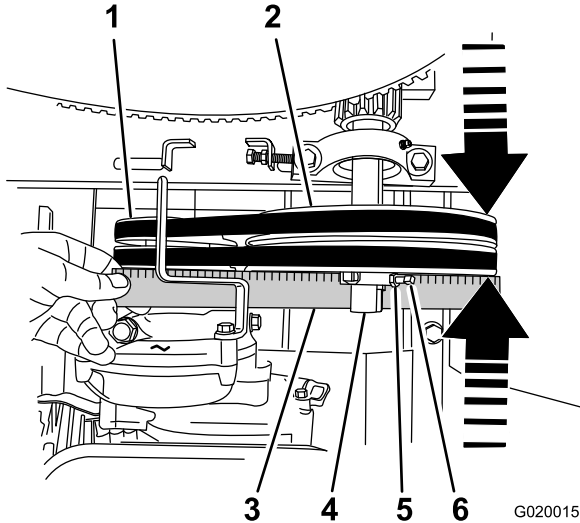

Figure 69
2. Place a straightedge across the face of the engine pulley and the idler pulley (Figure 69).
- B. Loosen the locknuts and setscrews that secure the idler pulley to the idler shaft (Figure 69).
- C. Using a soft-face mallet, tap the idler pulley forward or backward along the idler shaft until the engine pulley and the idler pulley are aligned to the straight edge (Figure 69).
- D. Tighten the setscrews and locknuts that secure the idler pulley to the idler shaft (Figure 69).